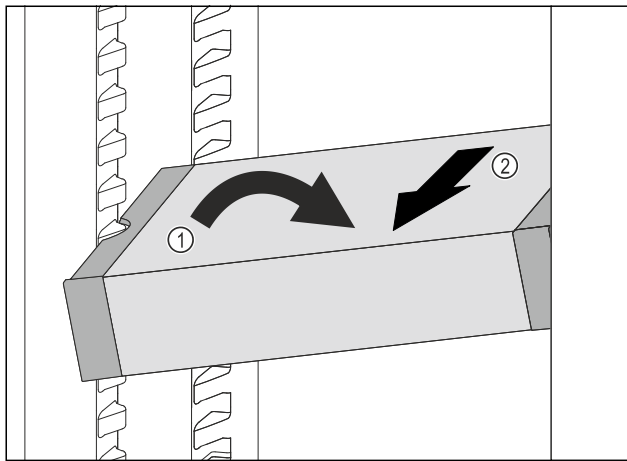

Fig. 46
- ▶ Set VarioSafe in refrigerator compartment at an angle. Fig. 46 (1)
- ▶ Take VarioSafe out to the front. Fig. 46 (2)